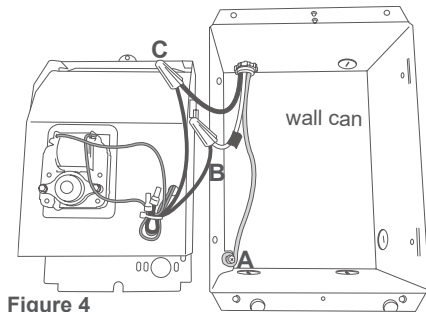

Figure 4
**A.** Connect supply ground wire to grounding screw in wall can (See Figure 4 or 5).
For 240 or 208 volts, it doesn't matter which heater wire. Both supply wires (black and white) are hot. Wrap supply (white) wire with black tape to identify it as hot (Figure 4).
**C.** Connect the remaining supply wire to the remaining heater wire with a wire connector (not included) (See Figure 4 or 5).